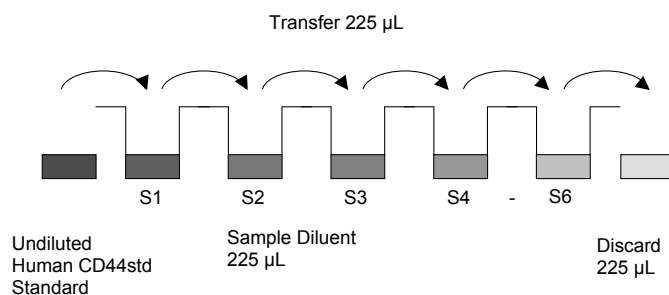

Fig. 5 Dilute standards - tubes.
4. Repeat serial dilutions 4 more times thus creating the points of the standard curve (see Figure 5).